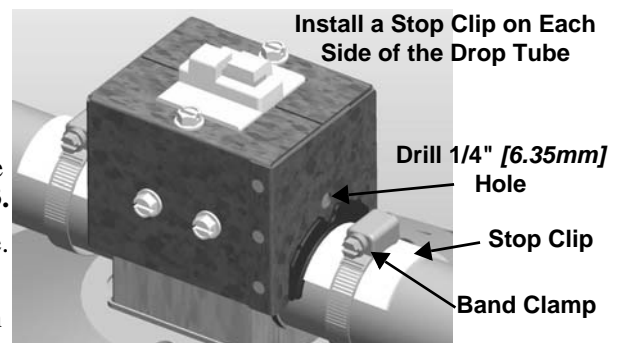

Figure 3. Install Stop Clips and Drill Cable Hole
11. Install the feeder stop clips on the feeder tube. Position the stop clips against the drop tube on both sides, see **Figure 3**.
13. Drill a 1/4" [6.35 mm] diameter hole for the actuator winch cable on both sides of the drop tube. Use the hole in the cap as a template for drilling, see **Figure 3**.